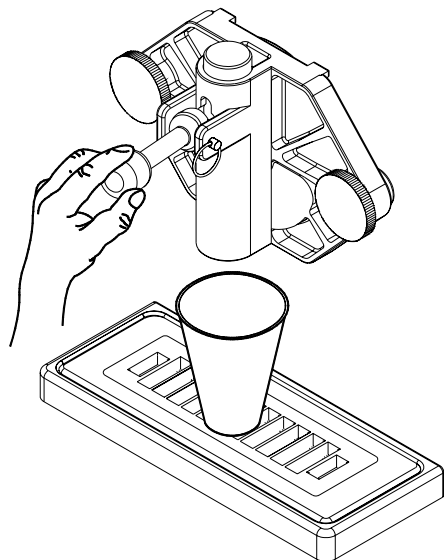

Fig. 14
2. Place a 16 oz. Cup under the spigot and open the spigot handle. Pour approximately one quart of fresh product mix into the mix pan. (This will chase the sanitizing solution from the mix pan and freezing cylinder.) Close the spigot handle when the sanitizer is purged from the system. (Fig. 14)